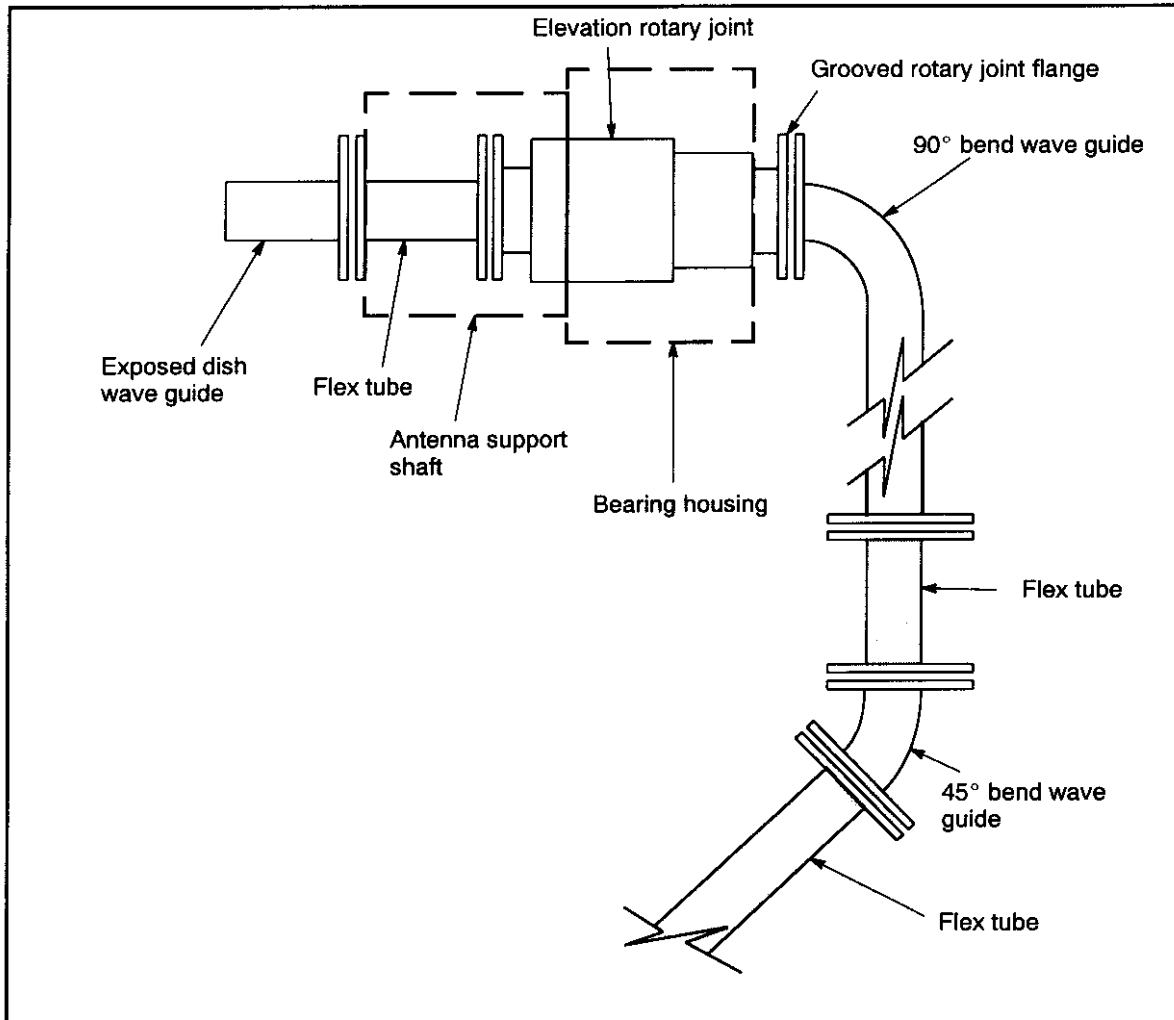

Figure 23. Elevation Wave Guide Rotary Joint.
- c. Disassemble the wave guide flange at the bottom of the 90° bend, saving the rubber gaskets and shim for re-use. Refer to Figure 23 for locations of components.